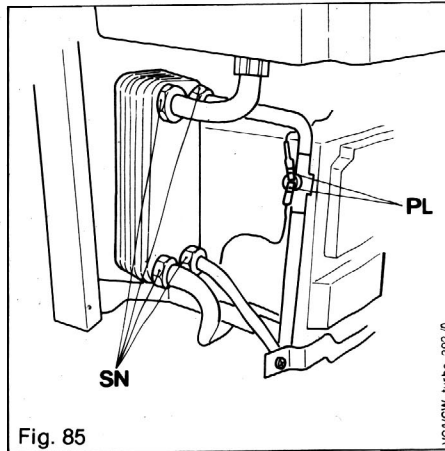

Fig. 85
14.20 Change of D.H.W. heat exchanger (Fig. 85)